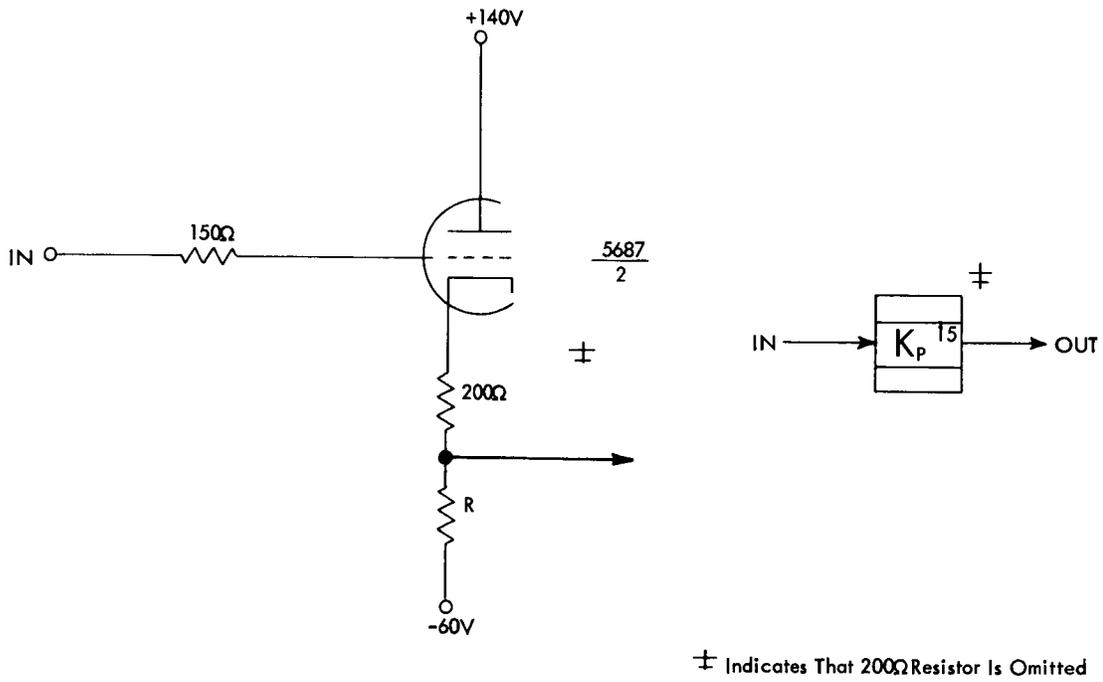

FIGURE C55. POWER CATHODE FOLLOWER --  $K_p$
The power cathode follower (KP) (Figure C55) is a cathode follower employing a 5687 tube rather than a 5965. The purpose of this change is to obtain greater power output without going to parallel cathode followers with the danger of parasitic oscillations. The cathode follower KPO is the use of cathode follower KP with a common cathode resistor for OR circuit operations.